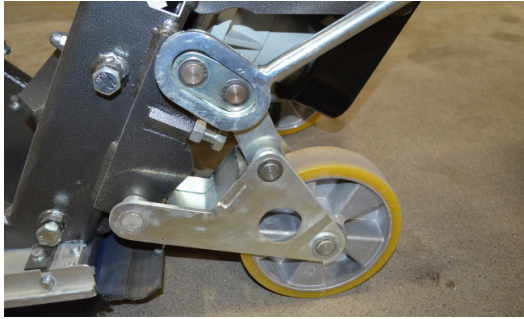

FIG. 4
3. Pull the lever until the linkage is touching the bracket (Figure 4).